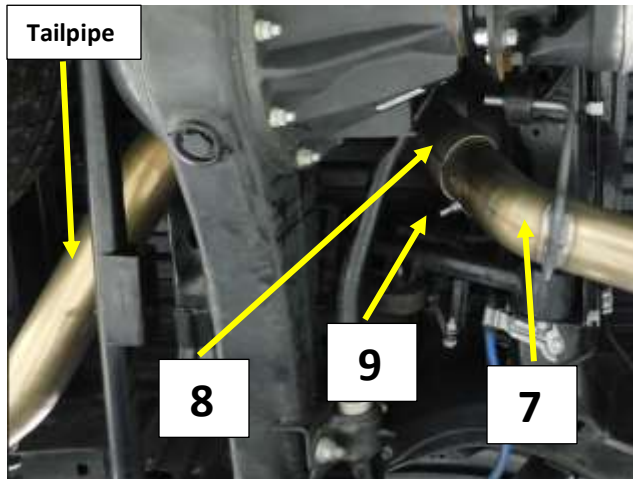

Figure 7
11. Install a 3" band clamp (9) on to the expanded end of the tailpipe (8) with the bolt on the outside and the nut facing the ground. **Fig.7**
12. Install the expanded end of tailpipe (8) over the axle and on to the muffler outlet pipe (7). **Fig.7**